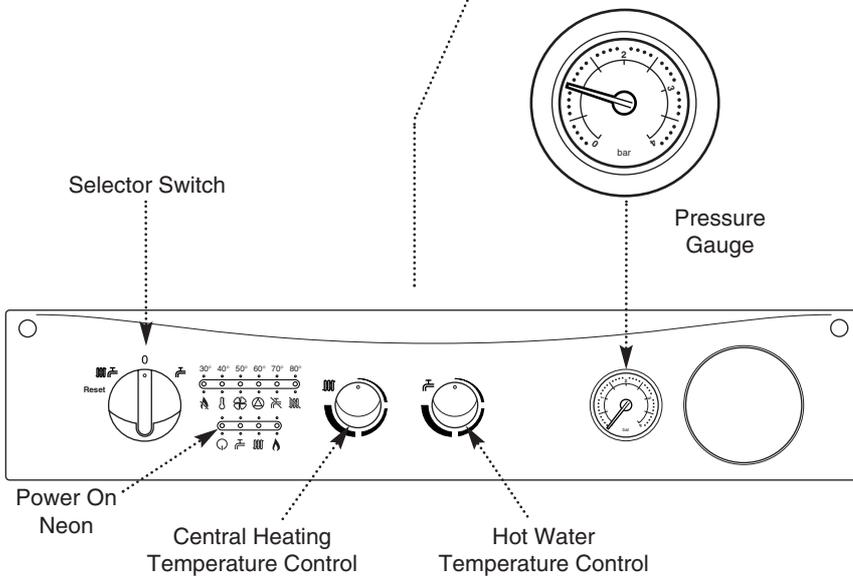

Fig. 32
10. If at any time during commissioning it is required to terminate a particular cycle, e.g. the pump overrun period, turn the selector to the OFF position and then back to either (OFF) or (ON) (Fig. 32).